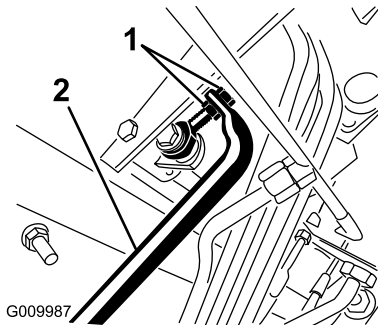

Figure 90
4. Adjust jam nuts on pump rod end to move pump control tube forward to eliminate forward creep or rearward to eliminate rearward creep (Figure 90).